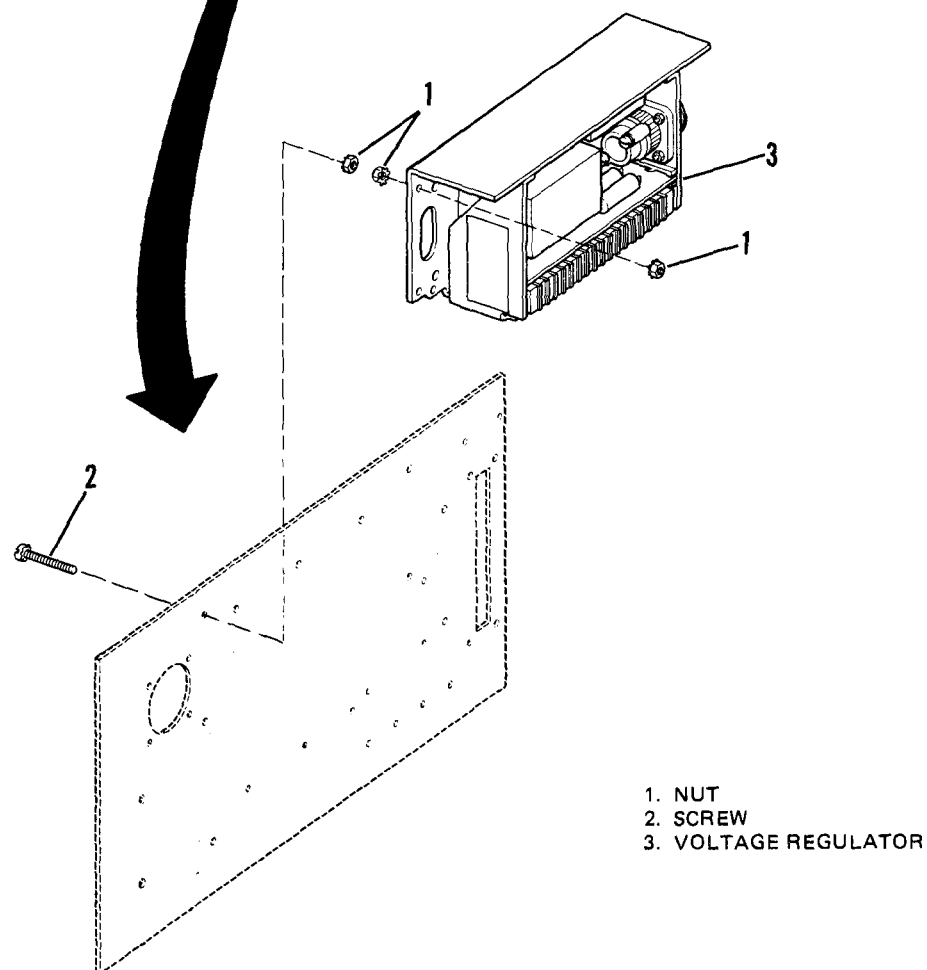
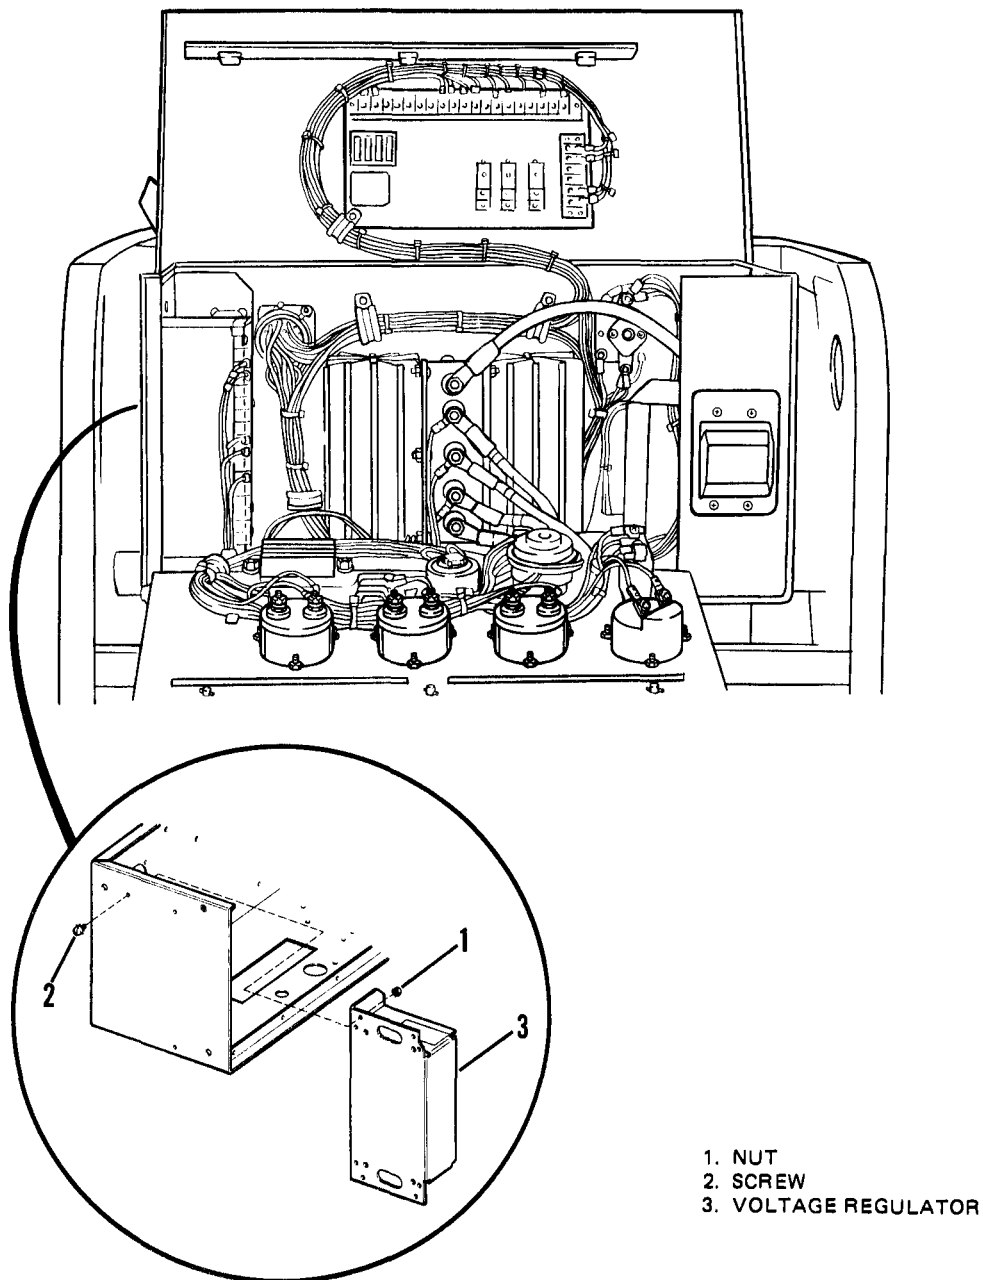

Figure 5-18. Voltage Regulator. MEP-016B and MEP-021B (60/400 Hz Sets).
Figure 5-19. Voltage Regulator MEP-026B (28VDC Set).
Both the MEP-016B/MEP-021B (60/400) Hz sets and the MEP-026B (28 VDC) set have similar procedures for removing and installing the voltage regulator. Refer to Figure 5-18 for MEP-016B/MEP-021B (60/400 Hz) sets and Figure 5-19 for MEP-026B (28 VDC) sets.
- (1) Tag and disconnect wiring from voltage regulator (3, Figure 5-18 or 5-19).
- (2) Remove nuts (1), screws (2) and regulator (3).
(2) Place voltage regulator (3, Figure 5-18 or 5-19) in control box and secure with screws (2) and nuts (1).
(3) Use tags for identification to connect leads to voltage regulator.